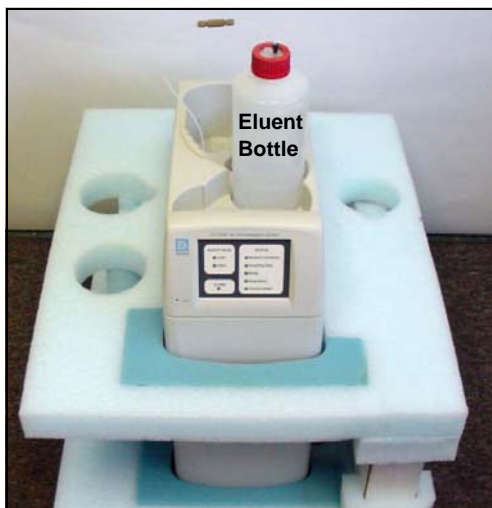

Figure B-2. ICS-1000 with Eluent Bottle
2. Set the eluent bottle on top of the ICS-1000 (see Figure B-2).